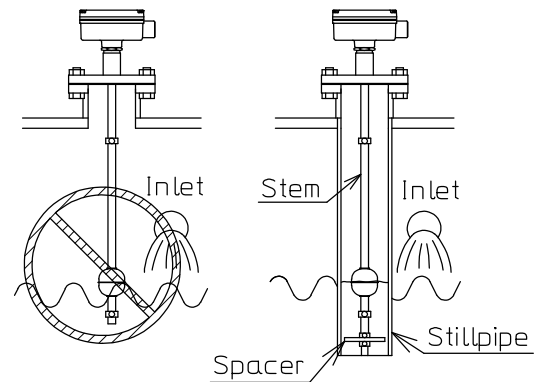

Fig.9
- (1) Avoid proximity to inlet or agitator where heavy liquid flow or turbulence is expected. If such a location is not avoidable, use a stillpipe(*). (Fig.9)
- (2) Use a stillpipe whose inner diameter at least 20mm larger than the float outer diameter. For a long stem, provide a spacer(*) at the end.
- (3) Ensure no obstruction such as piping inside the tank that disturbs float movement.
- (4) Avoid proximity to a motor, pump, solenoid valve or other devices containing ferromagnetic material.
- (5) Ensure the sensor is mounted vertically when tightening the flange bolts.
- (6) Ensure correct wiring for external devices. Tighten the terminal screws properly to avoid contact failure or shortcircuit.
- (7) Seal the cable inlet properly to avoid water entry from the conduit.
- (8) Ensure no water, dust or metal debris inside the housing.
- (9) Place the housing cover properly.